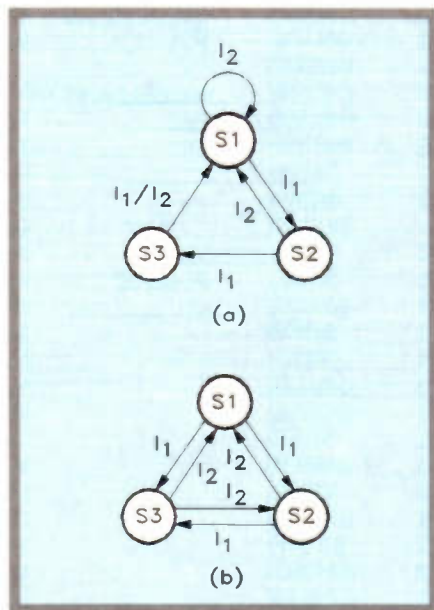

Figure 1. State diagrams for (a), a divide-by-three up counter with reset and (b), a divide-by-three up/down counter.
It is necessary at the outset to state fully the requirements for the design, so that it is clear just what it is that we are trying to achieve. Pictures speak louder than words, so they say, therefore there is some value in using diagrams as well as the written word in a specification. The type of diagram that helps us in this context is known as a 'state diagram', two simple examples being shown in Figure 1.
Figure 1(a) shows the state diagram for a 'divide-by-three up counter with reset' while the diagram of Figure 1(b) shows a 'divide-by-three up/down counter'. It will be noticed that this type of diagram consists of a number of circles joined by 'arrowed flow lines'. Each of the circles represents a state of the counter, a symbol for that state appearing inside the circle. Thus, in both of the cases shown, the
Taking the Figure 1(a) first, it should be noted that a flow line marked with the symbol I1 runs from S1 to S2, then to S3 and, finally back to S1. This symbol I1 means 'input condition number one' and, in this example, corresponds to the normal up-counting direction of the counter. In other words, it shows that when input condition one is selected, the counter starts at state S1 (00), then goes to S2 (01), then to S3 (10), before returning to initial state S1 in order to repeat the same sequence.
If the above has been understood, there should now be no difficulty in deciphering the state diagram of Figure 1(b). This simply has two sets of flow lines, one clockwise set marked I1 for UP counting, the other set, going anti-clockwise, marked I2, for DOWN counting.
In the early stages of the counter design, it is necessary to list the states that will exist in the counter sequence. These can then be given the appropriate symbols and will also allow us to determine the number of flip-flops required. These are usually listed in a state allocation table. In this allocation table we must also assign reference letters to each of the flip-flop Q outputs. Following this we must describe the input conditions. Thus, the first stage of the design of the 'divide-by-three resettable counter' (as described by the state diagram of Figure 1(a)) might appear as follows: